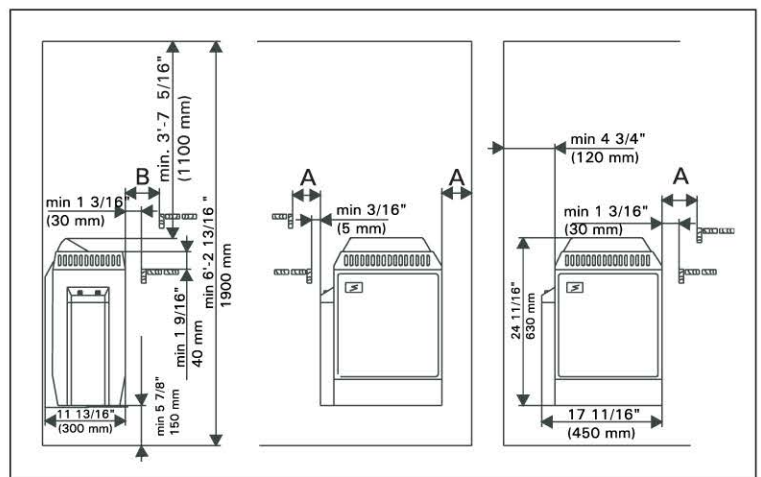

Figure 5. Min. distances to combustible materials
- The location of the heater fulfils the minimum requirements concerning safety distances given in fig. 5 and table 1.
1. Fasten the wall-mounting rack on the wall by using the screws which come with the rack. Observe the minimum safety distances given in table 1 and fig. 5.